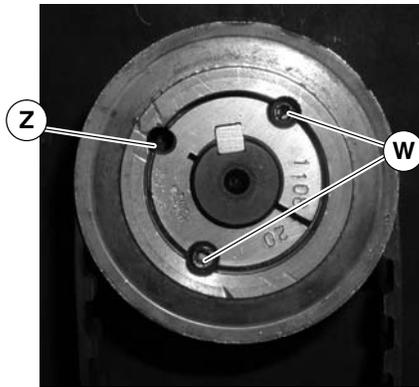

Figure 15
2. Remove taper-lock screws (W of Figure 15). Insert one (1) of taper lock screws (W of Figure 15) in remaining hole (Z). Tighten screw (W) until pulley is loose. Remove pulley and taper hub assembly.